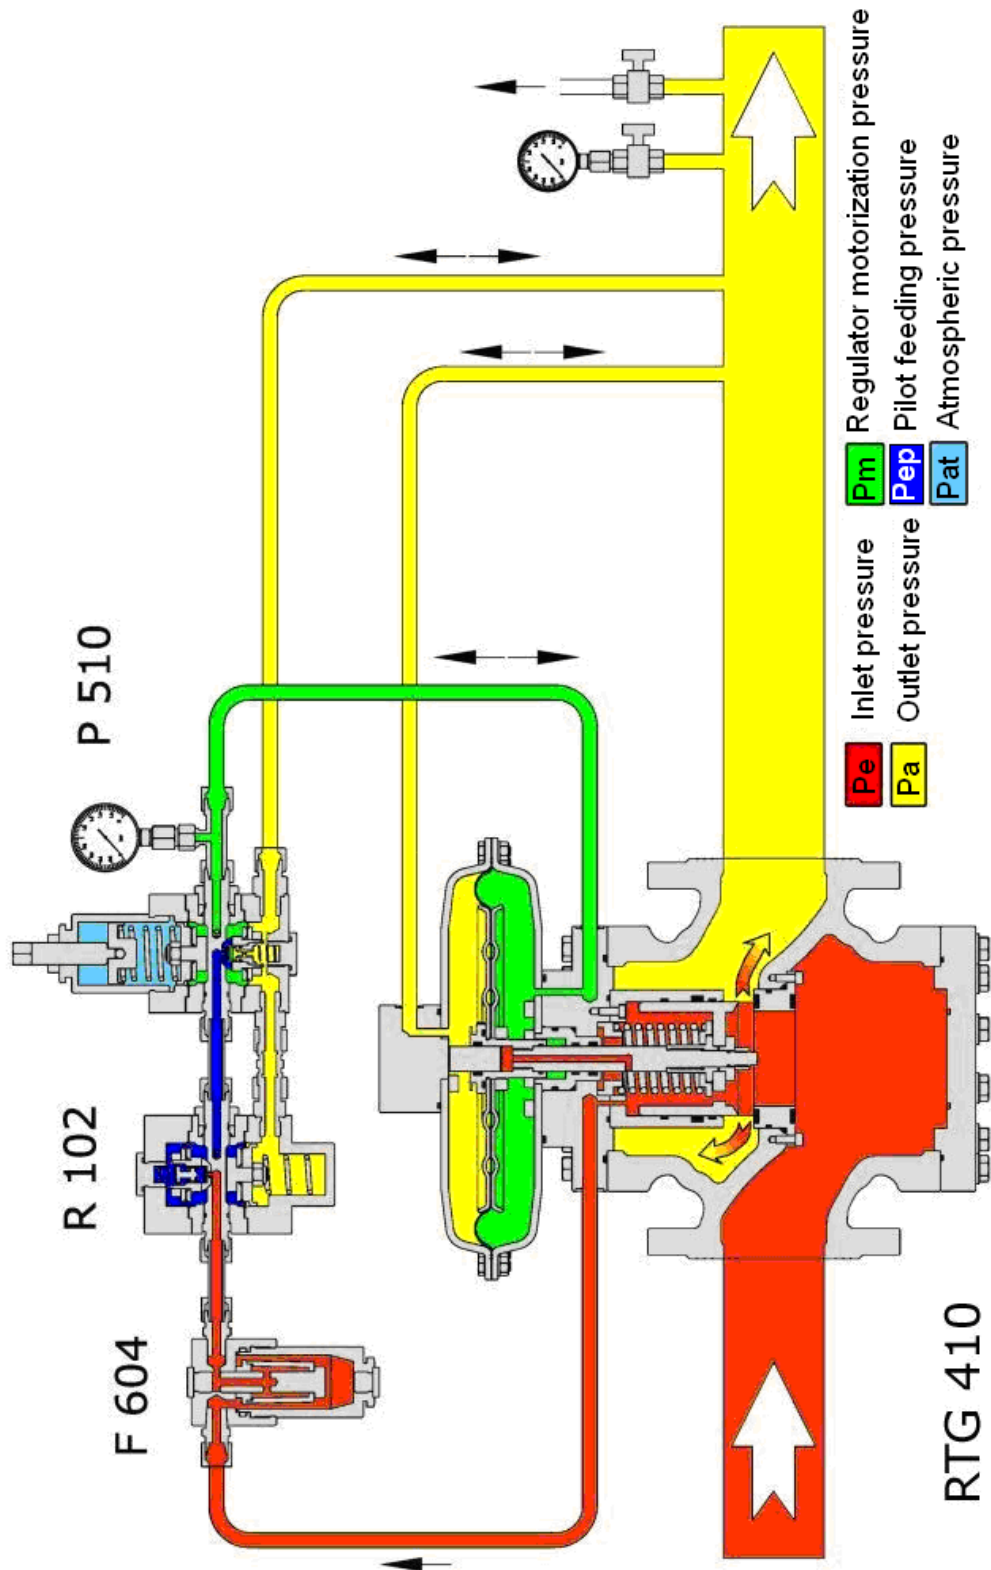
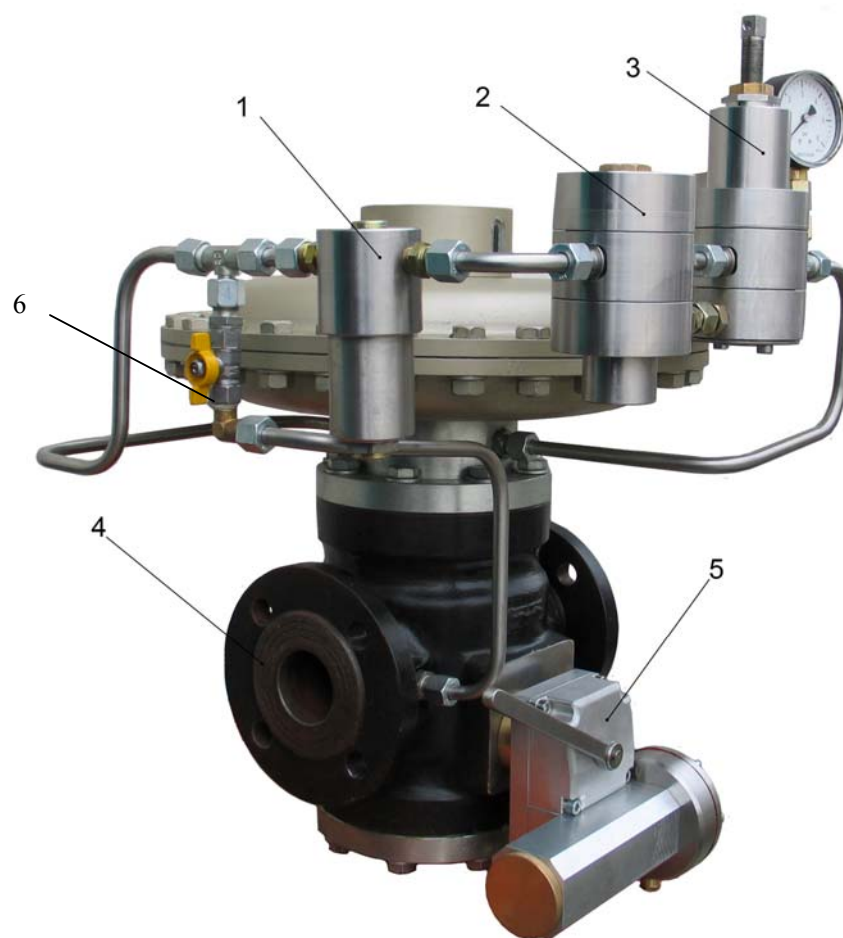

Figure 1 - RTG 410 operating diagram
Figure 4 – RTG 410 pressure regulator
RTG 410 regulators (Figure 1 and Figure 4) comprise the control mechanism – F 604 filter (1), R 106 (2) or R 102 preregulator, P 510 Pilot (3) and the operating equipment – regulator (4), and optionally an incorporated shut-off valve with SB 75 control mechanism (5).
The regulator operation is described on the basis of Figure 1.
RTG 410 (Figure 1) regulators function on the principle of the balance between the forces acting on the operating element. The force delivered by the downstream pressure (P_a) on the diaphragm acts in conjunction with the force generated by the operating mechanism spring and by the weight of the mechanism. The resultant force balances the force exerted by the motorization pressure (P_m) on the diaphragm.